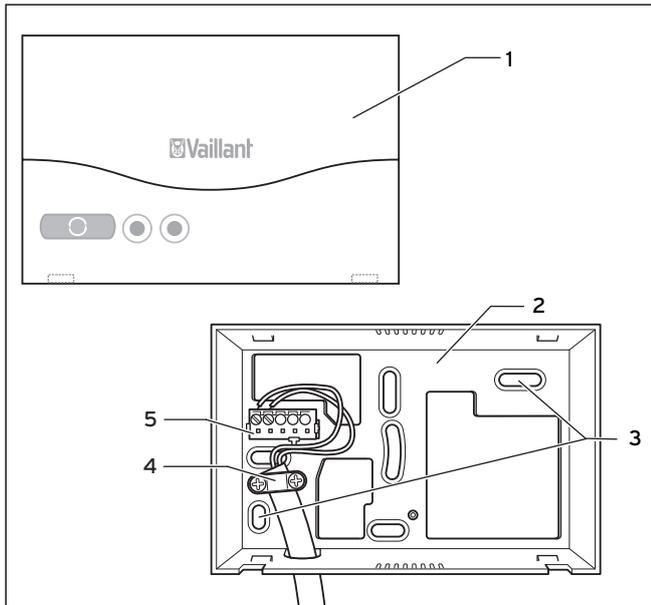

Fig. 4.1 Installation of the radio receiver unit
- ⇒ Connect the eBUS cable to the terminal strip (1) of the wall socket for the radio receiver unit.
- ⇒ Install the strain relief (4, Fig. 4.1).
- ⇒ Connect the eBUS cable to the terminal strip of the appliance (2).